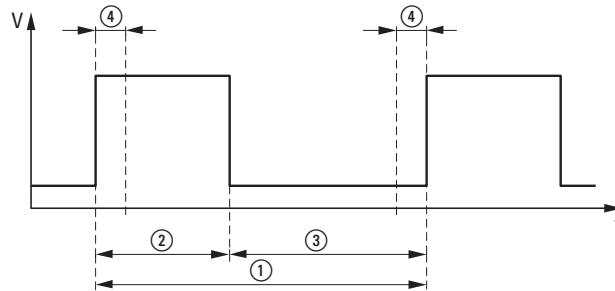

Figure 172: Signal Pulse width modulation
Meanwhile, the PWM frequency can be adjusted as a period in increments of 0.5 μ s between 30.5 Hz and 20 kHz – please refer to → Section “Figure 172: Signal Pulse width modulation”, page 308
| 0x2220 | 0x6411 SUB 01 | 0x7xx4 SUB 01 | 2 | Pwm1TurnOnTime P1 pulse duration, adjustable in increments of 500 ns, please refer to ② → Figure 172 | Bit 0-15 | 0: PWM not activated; in the event of a periphery reset, all bits are set to a value of 0. | 0x0000 |
| 0x2221 | 0x6411 SUB 02 | 0x7xx4 SUB 02 | 2 | Pwm2TurnOnTime P2 pulse duration, adjustable in increments of 500 ns refer to ② → Figure 172 | Bit 0-15 | 0: PWM not activated; in the event of a periphery reset, all bits are set to a value of 0. | 0x0002 |
| 0x4220 | – | 0x7xx4 SUB 01 | 2 | Pwm1Period refer to ① → Figure 172 | Bit 0-15 | Used to select the period duration for channel 1-2; Default: 0; This default value must be set to a valid period duration. The period duration can be set to a value between 50 and 32767 μ s in increments of 500 ns |
| 0x4221 | – | 0x7xx4 SUB 01 | 2 | Pwm2Period refer to ① → Figure 172 | Bit 0-15 | 0x0006 |